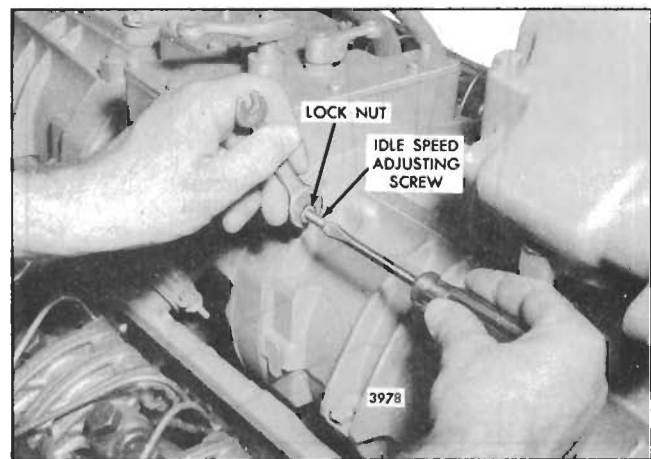

Fig. 9 - Adjusting Engine Idle Speed
3. Start the engine and loosen the idle speed adjusting screw lock nut. Then adjust the idle screw (Fig. 9) to obtain the desired idle speed. Hold the screw and tighten the lock nut to hold the adjustment.
1. With the engine running, at normal operating temperature and with the buffer screw backed out to avoid contact with the differential lever, turn the idle speed adjusting screw (Fig. 9) until the engine is operating approximately 15 rpm below the recommended idle speed.